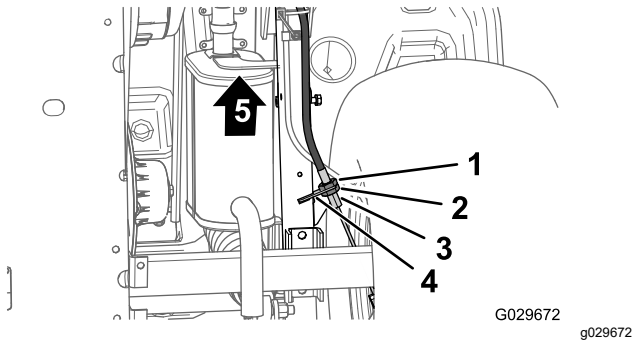

Figure 57
3. At the bottom of the machine, loosen the rear jam nut for the threaded adjuster of the parking-brake cable 4 turns (Figure 57).
4. Tighten the forward jam nut (Figure 57).
- A. Loosen the forward jam nut (Figure 57) for the threaded adjuster of the parking-brake cable 1 turn.
- B. Tighten the rear jam nut (Figure 57).
- A. Loosen the rear jam nut (Figure 57) for the threaded adjuster of the parking-brake cable 1 turn.
- B. Tighten the forward jam nut (Figure 57).